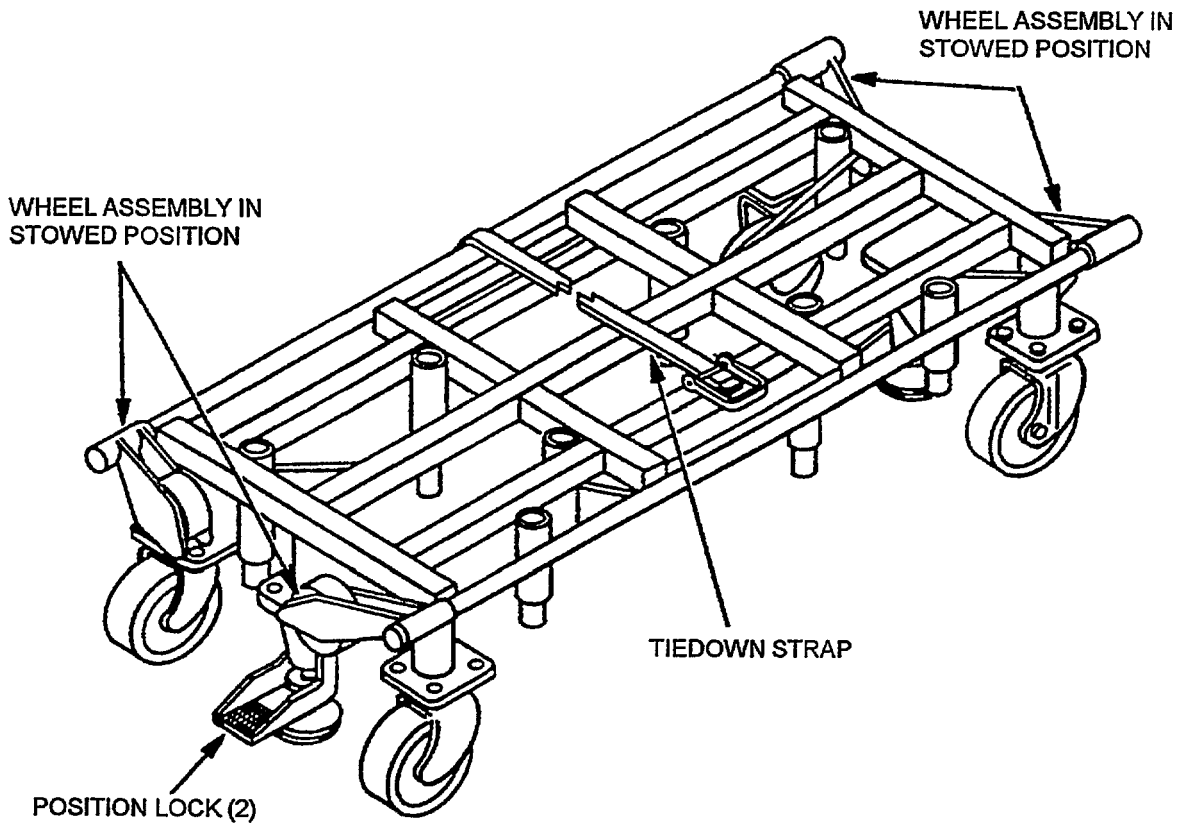

Figure B-1. Weapons Dolly Mk 11 Preparation
B.1 BOMB MK 83 or BLU-110A/B (3)
- b. Engage the position lock at each end of dolly; then place all four wheel assemblies in the stowed position as shown in Figure B-1.